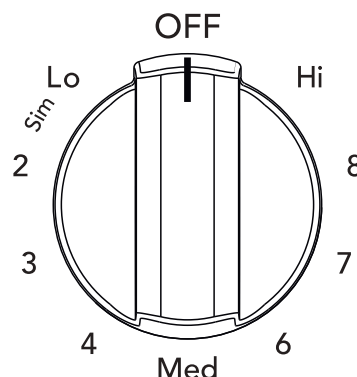

Figure 6: Single element knob
2. Push in and turn the surface control knob in either direction (Figure 6) to the desired setting (refer to the “Suggested radiant surface element settings” in Table 1).
Start most cooking operations on a higher setting and then turn to a lower setting to finish cooking. The surface control knobs do not have to be set exactly on a particular spot. Use the graphics provided as a guide and adjust the control knob as needed (see Figure 6).